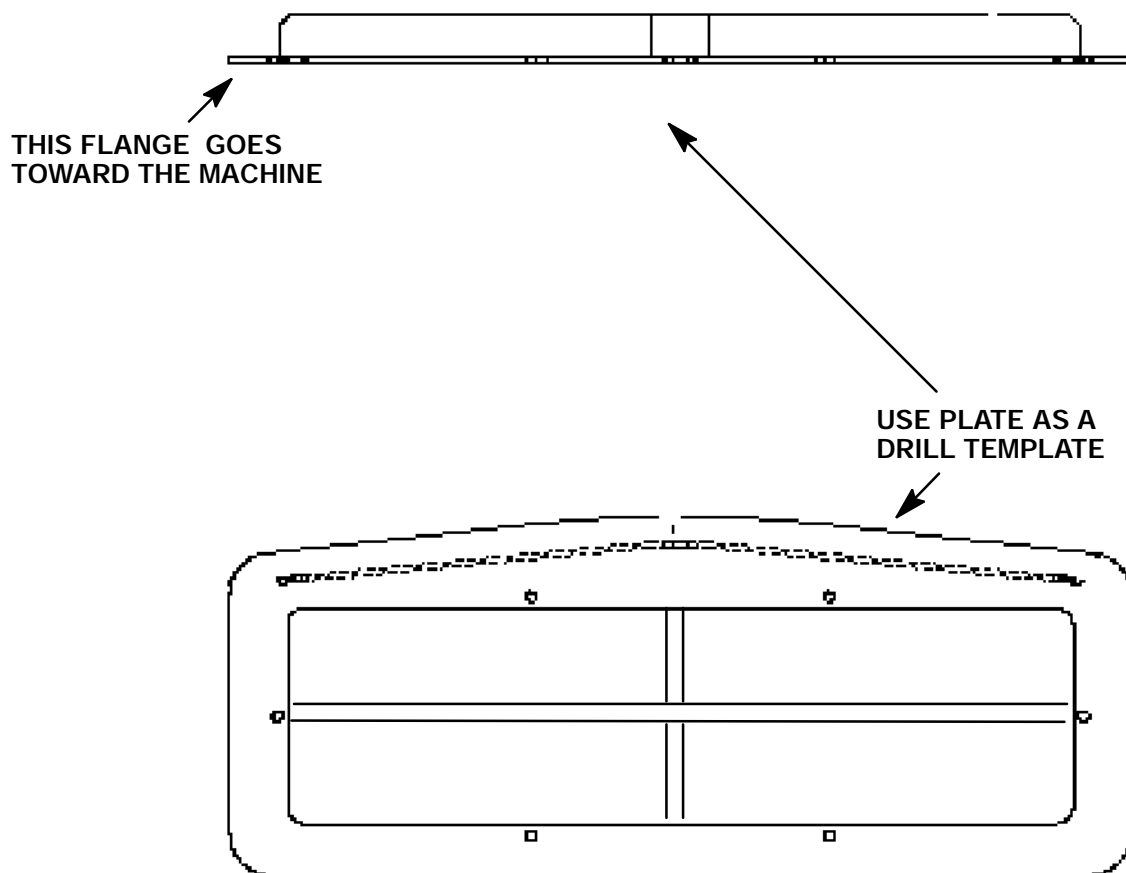

FIG. 2 - Vacuum Exhaust Plate (368035)
(Refer to FIG. 2 and 3)
1. Use the new vacuum exhaust plate (1) as a template to mark and drill the six mount holes on the outlet flange of the vacuum fan housing. Drill the six holes .094 inch. Install the plate with the flange up, toward the machine. (Refer to FIG. 2)
2. Install the new vacuum exhaust plate (1) onto the outlet flange of the vacuum fan housing using the six screws (2). Hand tighten. (Refer to FIG. 2)
3. Install the rigid molding (3) onto the edge of the new vacuum exhaust plate (1).
(Refer to FIG. 2)